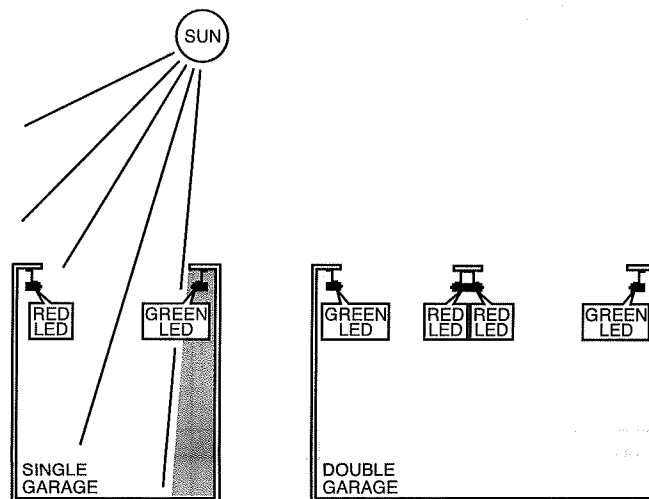

FIG. 4 Sun field
- > Determine which side of garage receives most direct sunlight (**Fig. 4**).
- > Red LED should always be on sunny side whenever possible (**Fig. 4**).
- > Place Source (Red LED) and Sensor (Green LED) modules on adjacent doors facing in opposite directions (**Fig. 4**).